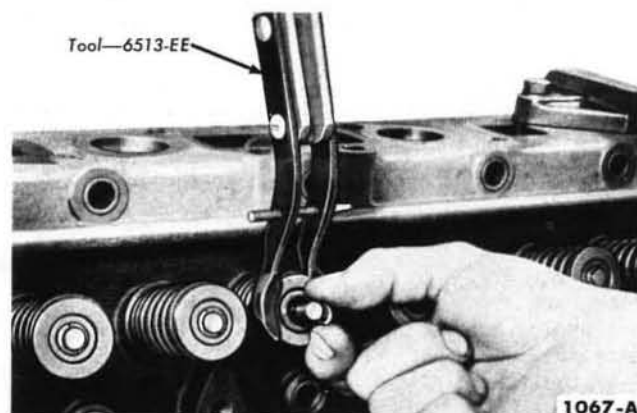

FIG. 18—Valve Stem Lock Removal or Installation
2. Compress the valve spring (Fig. 18), then remove the valve retainer locks and release the spring. Remove the sleeve, spring retainer, spring, stem seal, and valve. Discard all valve stem seals. Identify all valve parts.
2. Install the valve spring, then install the valve spring retainer, and sleeve. Compress the spring, and install the retainer locks (Fig. 18).